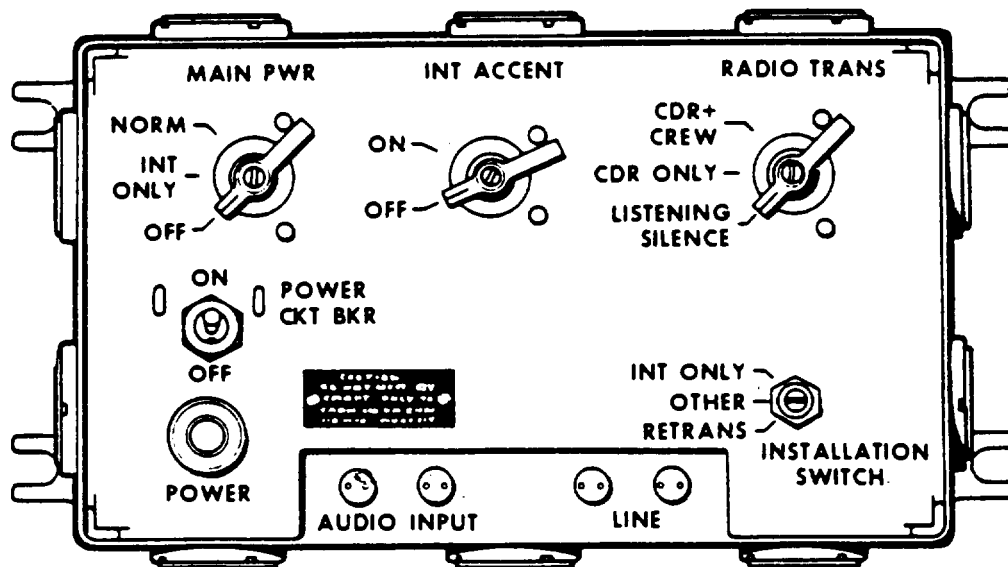

Figure 11-1. AM-1780 Amplifier
(1) Turn turret power on. Turn MAIN PWR on the AM-1780 to NORM. This position makes power available to the radio and the aux receiver connected to the AM-1780. See figure 11-1.
(2) Turn POWER switch on the radio (connected to 3501) to either HIGH or LOW. This supplies power to the AM-1780.
(3) Turn POWER CKT BKR switch on the AM-1780 to ON. This supplies power to the AM- 1780 and to all control boxes connected to the AM- 1780.
(4) Turn INSTALLATION SWITCH on the AM-1780 to OTHER position. This is the normal position which allows the radio accessories connected to the control boxes to operate both the radio and the intercom equipment.
(5) Use the RADIO TRANS switch on the AM-1780 to select crew members allowed to transmit with the radio.
(1) Turn turret power on. Turn MAIN PWR switch on the AM-1780 to INT ONLY. Power is now available for only intercom equipment. See figure 11-1.
(2) Turn POWER CKT BKR switch on the AM-1780 to ON. This supplies power to AM-1780 and all control boxes connected to the AM-1780.